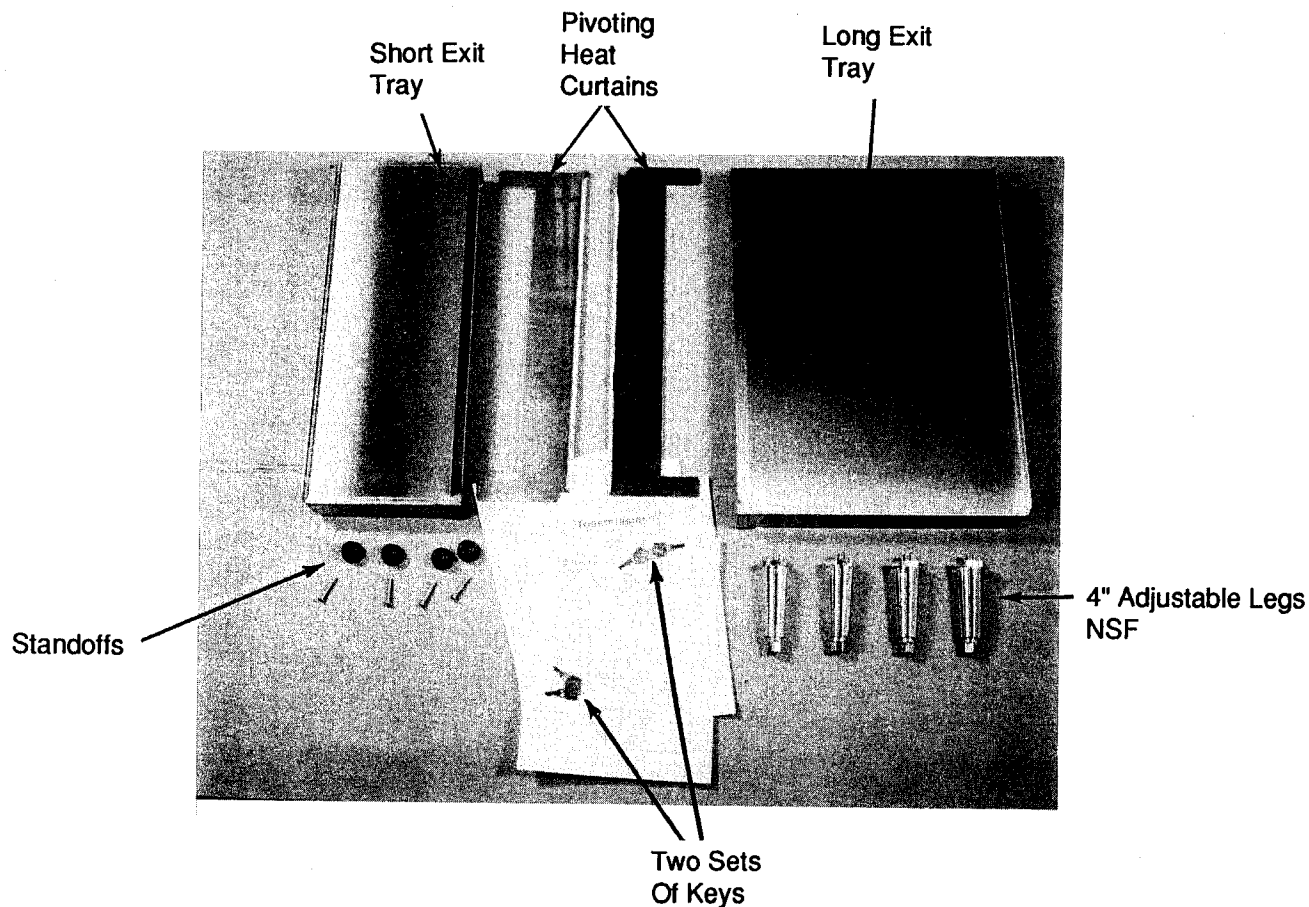

Figure 2-1
Attached to the conveyor belt is a box containing one (1) short exit tray, one (1) long exit tray, two (2) pivoting heat curtains, four (4) adjustable 4" legs, four (4) standoffs and two (2) sets of keys. (See Figure 2-1). Check to make sure you received the correct quantity of parts.